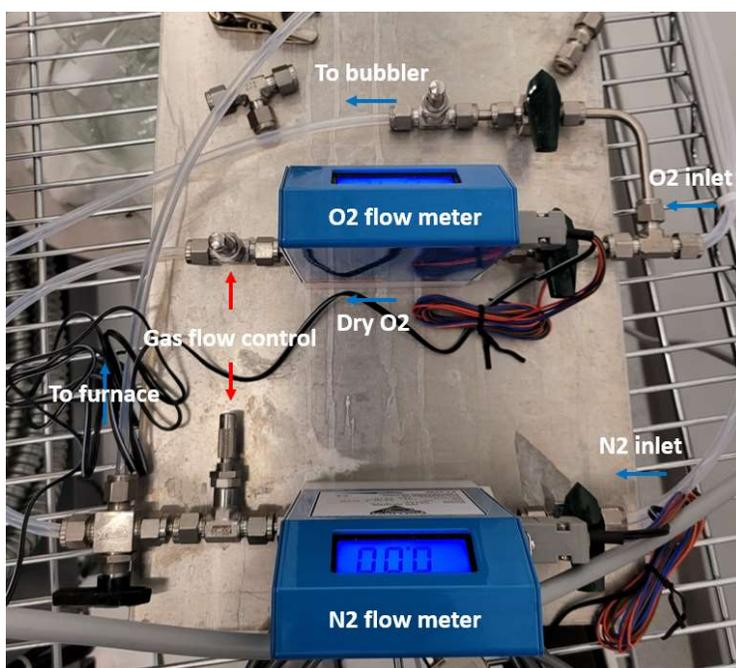

Figure 1. Gas lines
- a. Gas setup: The furnace tube should be filled with the needed gas at the beginning of the process. Refer to Figure 1.